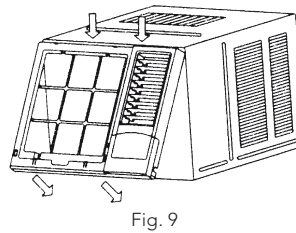

Fig. 9
- 1 Install the frame. (see Fig.9)